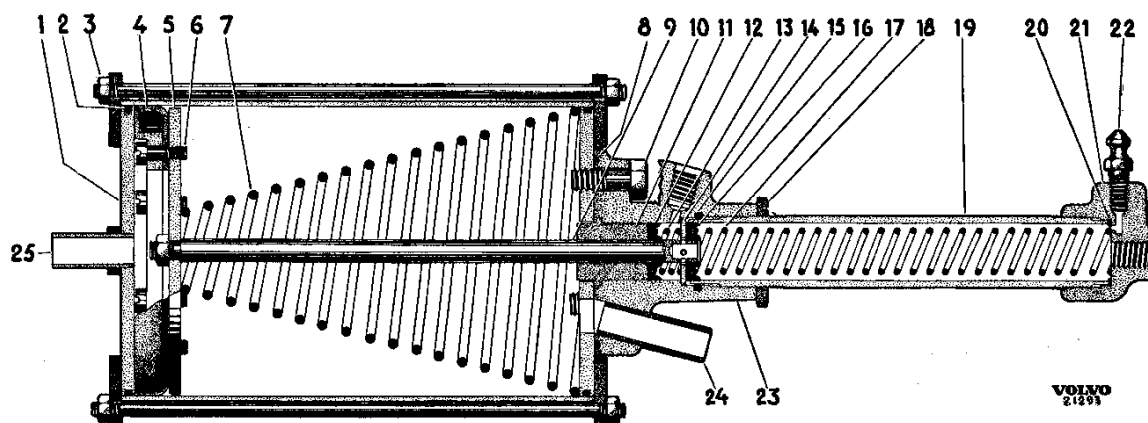

Fig. 24. Servo cylinder.
1. Loosen the four bolts (10, Fig. 24) and remove the plunger rod (9), the guide (11) and the end seal ring (8).
2. Take out the washer (12) and the spring (13).
3. Loosen the lock nut (18) and separate the oil pressure cylinder (19) from the tube (23). This should be done carefully in order to avoid damage to the washer (16) by the spring (17). Remove washer, spring and packing washer (14). Ensure that the seal (15) is not damaged. The end unit (21) on the pressure cylinder should not be unscrewed in order to avoid the leakage which